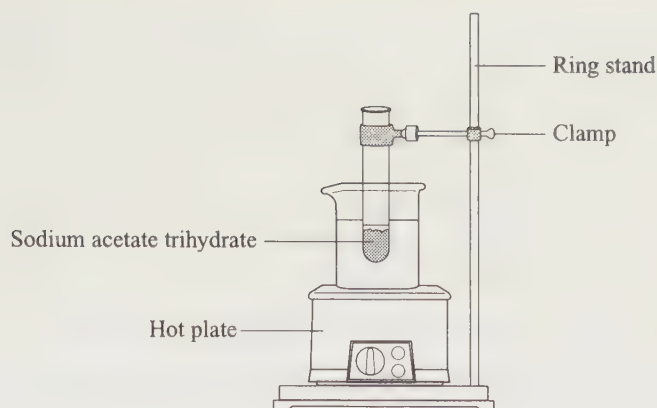

FIGURE 2 Setup for dissolving sodium acetate trihydrate.
1. Place the hot plate on the base of the ring stand as shown in Figure 2.
6. Using the clamp of the ring stand, suspend the test tube in the boiling water bath as shown in Figure 2.